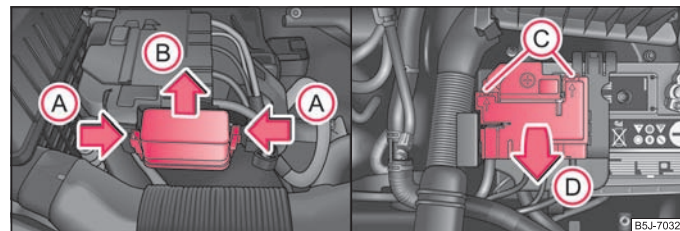

Fig. 163 The battery: Fuse cover
- Press together the interlocks of the fuse cover simultaneously in direction of arrow **(A)** ⇒ page 197, fig. 163 and push out the cover in direction of arrow **(B)**.